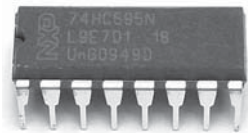

Figure 6-4: The 74HC595 shift register IC
The Arduino board has 13 digital pins that we can use as outputs—but sometimes 13 just isn't enough. To add outputs, we can use a *shift register* and still have plenty of room left on the Arduino for outputs. A shift register is an integrated circuit (IC) with eight digital output pins that can be controlled by sending a byte of data to the IC. For our projects, we will be using the 74HC595 shift register shown in Figure 6-4.
To give you a sense of the way pins are oriented, the semicircular notch on the left end of the body of the shift register IC shown in Figure 6-4 lies between pins 1 and 16.